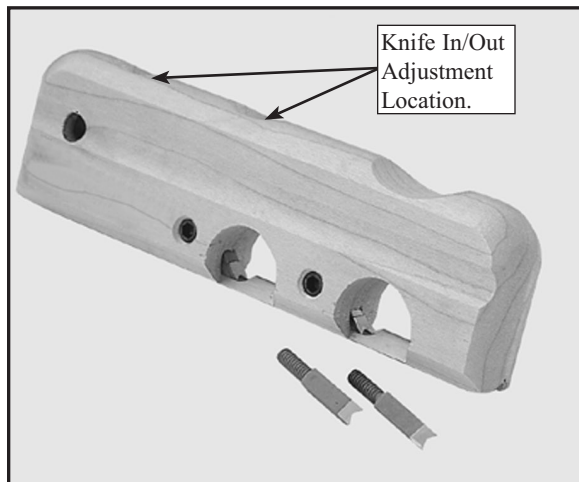

Figure 1. The Slickplane and its knives. Note the location of the in/out adjustments.
3. Adjust the cutter "in" by manually holding the cutter in place. Insert the Allen wrench in the corresponding hole on top and turn in a clockwise direction. (See Figure 1.) Turn the Allen wrench counter-clockwise to adjust the cutter "out". Repeat this procedure for the second cutter adjustment.